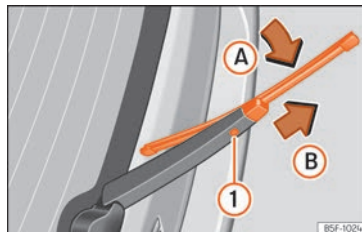

Fig. 44 Changing the rear wiper blade
- Turn the blade slightly »» Fig. 44 (arrow A).
- Hold down the release button ❶ while gently pulling the blade in the direction of arrow B.
- Insert a new blade of the **same length and type** in the rear wiper arm in the opposite direction to the arrow B and hook into place button ❶.